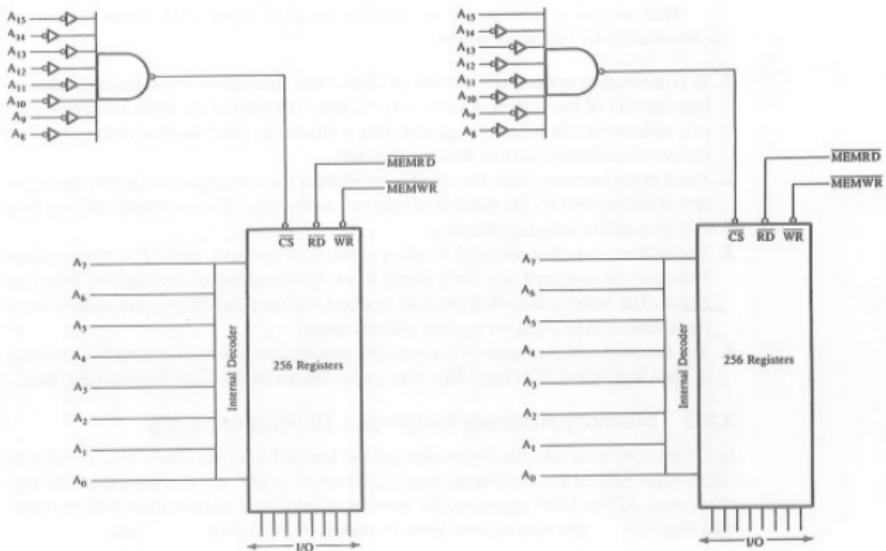

Figure 30: Address map for 256 register memory
- Figure 30 shows a memory chip with 256 registers and eight I/O lines.